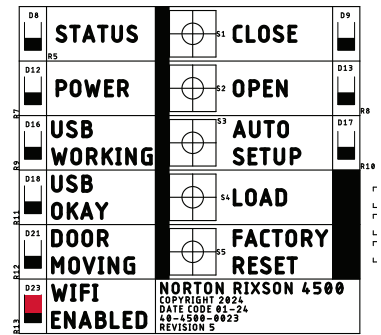

Figure 5
- The red WIFI ENABLED LED on the operator’s control board will indicate that WiFi has been successfully turned on. (This will only be visible if the operator cover has been removed.) (Figure 5)